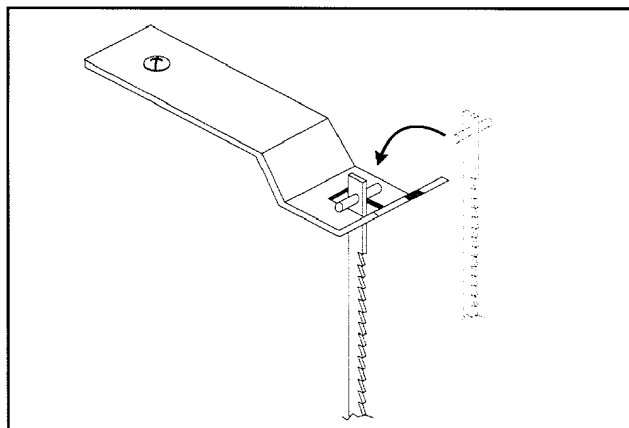

Figure 1
1. Loosen the tension adjusting knob, located at the far back of the upper arm cover. Thread the blade through the hole provided in the table and hook the blade's cross pins on the top and bottom retainer clips. See Figure 1.